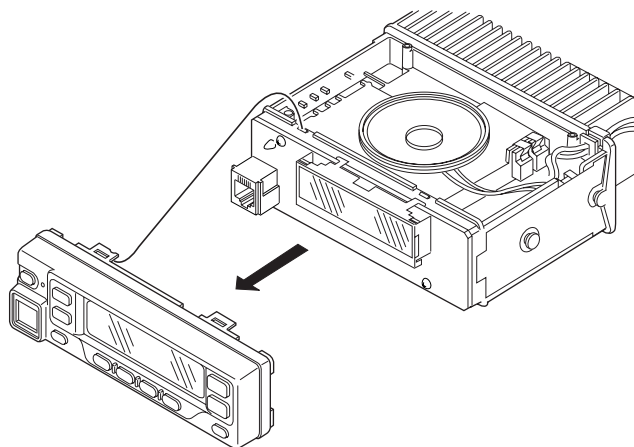

Fig. 9
1. Remove the control panel and the TX-RX unit (B/2) control section. (Fig. 9)